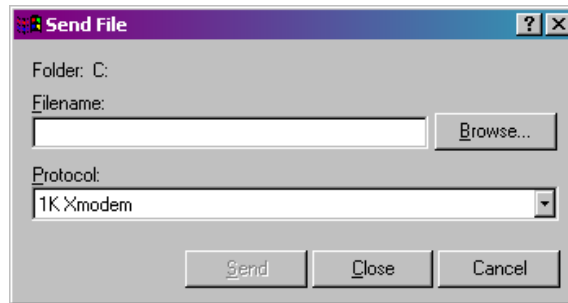

Figure 5-3. Send File dialog box
8. In the Send File dialog box (see Figure 5-3), select **1KXmodem** for the protocol, enter the filename of the appropriate .bin file in the format “CWXxxxxx.bin” where xxxxx varies from release to release) and click **Send** to start the flash upgrade (see Figure 5-